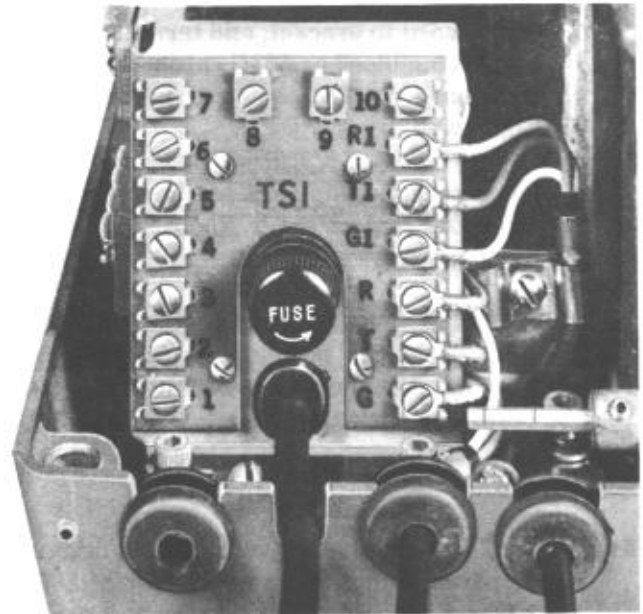

Fig. 9 — Standard Set Showing TS1 Terminal Strip with Mounting Cords Terminated
1. Insert the telephone set mounting cord through a rubber grommet, fasten cord to bracket, and terminate on answering set terminal strip TS1 as shown in Part 8 (see Fig. 9 and 10).
2. Insert a suitable mounting cord (D3AY or equivalent) through a rubber grommet, fasten cord to bracket, and terminate on the connecting block or 531C subscriber set and terminal strip TS1 as shown in Part 8 (see Fig. 9 and 10).